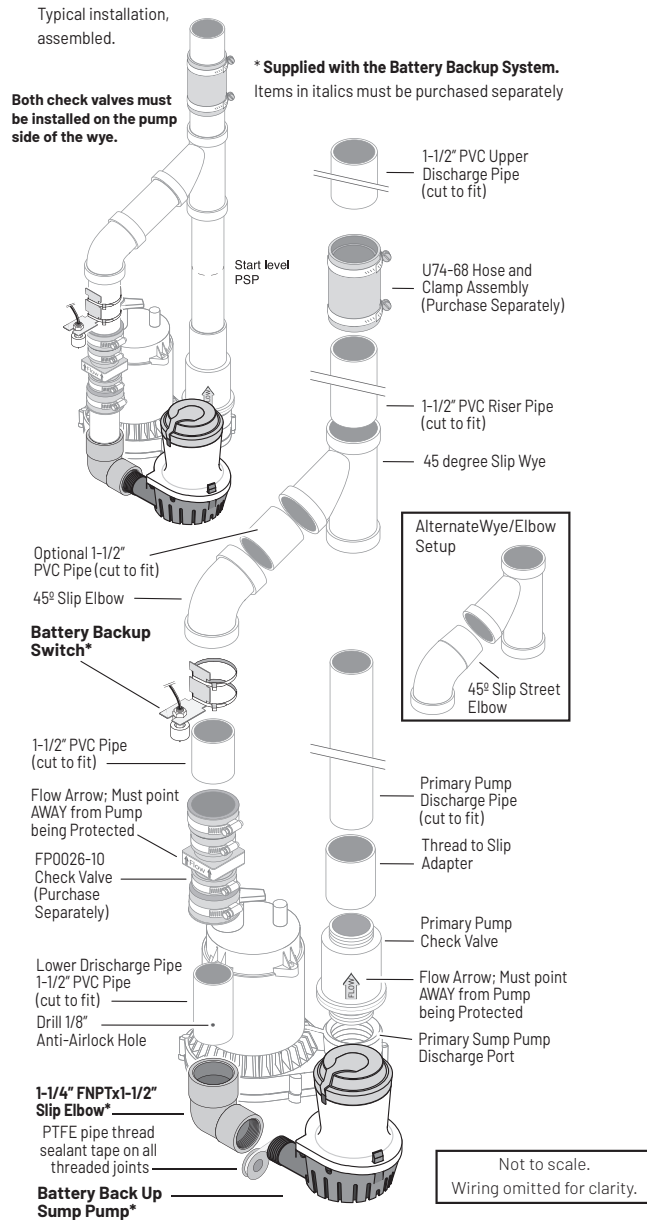

Figure 3: Common Discharge Pipe - Typical Installation
2. If there is no check valve in the primary sump pump's discharge, you will need to install one. You must also install one in the BBU's discharge pipe (Figure 3). Make sure that the check valve flow arrow points AWAY from the pump it is protecting.
6. Cut a piece of 1-1/2" PVC pipe to reach from the backup pump discharge elbow to about one (1) foot above the basement floor. This is the lower discharge pipe.